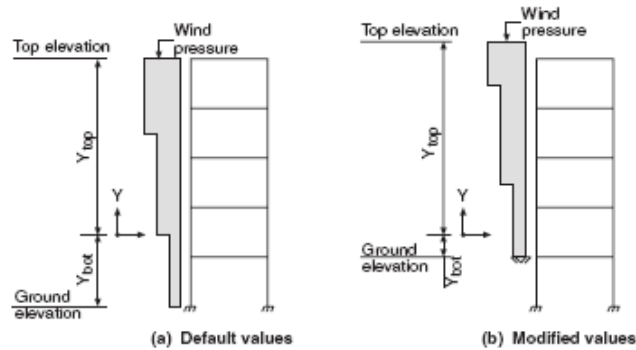
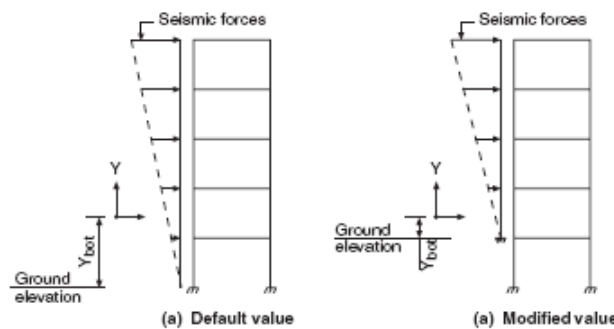

Figure 5-12 Ground and Top elevations for wind loads
Figure 5-13 Ground elevation for seismic loads
- Ybot, is the distance from the origin to the Ground elevation. The Ground elevation is the elevation below which no lateral loads will be applied to the floors. By default, Ground elevation is taken as the elevation of the lowest plane (see Figure 5-12 and Figure 5-13).
- The elevation of the top floor is taken as the Top Elevation by default. Top elevation may be increased to account for roof parapets. In this case, wind pressure will be applied over the area of the additional elevation, and the additional force will be added to the top level (see Figure 5-12).